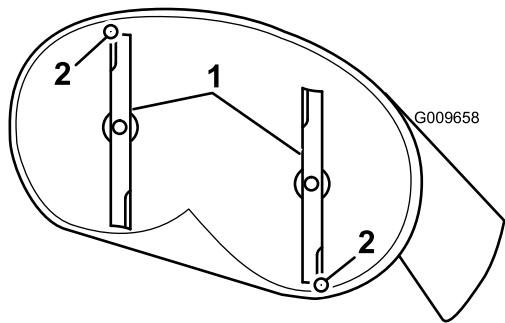
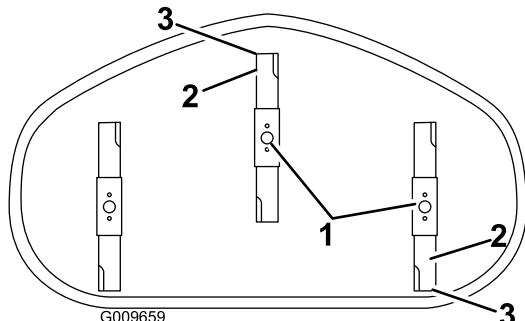

Figure 56
Figure 57
4. Carefully rotate the blades so they are facing front to rear (Figure 56 and Figure 57).
5. Measure from the tip of the front blade to the flat surface and the tip of the rear blade to the flat surface (Figure 56 and Figure 57). If the front blade tip is not $1/16$ - $5/16$ inch (1.6-7.9 mm) lower than the rear blade tip, adjust the front locknut.
8. After adjustment, check the front-to-rear slope again. Continue adjusting the nut until the front blade tip is $1/16$ - $5/16$ inch (1.6-7.9 mm) lower than the rear blade tip (Figure 56 and Figure 57).